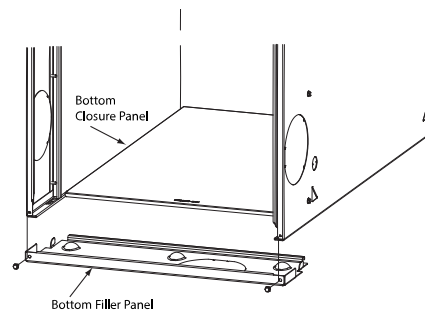

Fig. 9 – Removing Bottom Closure Panel
1. Tilt or raise furnace and remove two screws holding bottom filler panel, see Fig. 9.
- Tilt or raise furnace and remove two screws holding bottom filler panel, see Fig. 9.